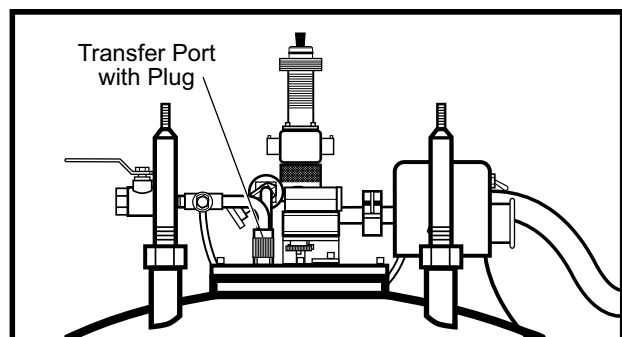

Figure 3-19 Helium Transfer Port with Plug
3. Remove cryostat transfer port plug and insert other end of transfer line into cryostat transfer port (Figure 3-19). Position end of transfer line a few inches above the magnet dewar bottom. Total length is 54 inches.
3. Remove the system dewar transfer port plug (see Figure 3-19). Apply pressure (if required) to storage dewar while watching exposed end of transfer line. When a sputtering sound is heard and a vapor cloud forms at end of transfer line, insert it into the transfer port of the system dewar. The transfer line must be long enough to reach the "belly" of dewar (30 inches; 76 cm), but should not extend below the existing helium level.